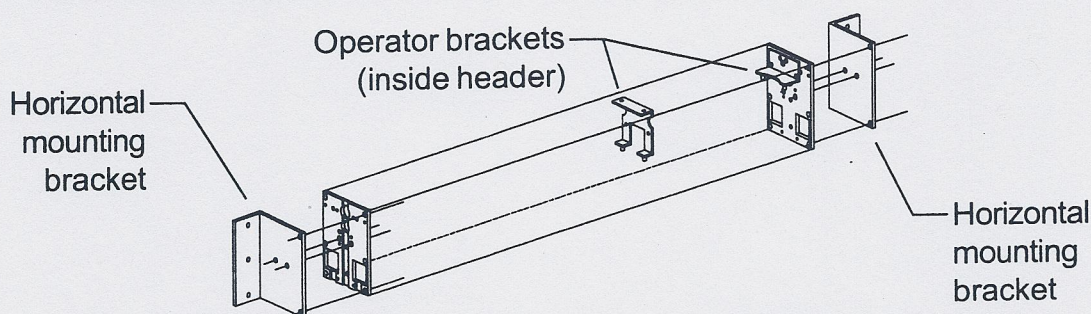

Figure 3-2
- 3.3. Install horizontal mounting brackets on the header per the instructions supplied with the brackets (Figure 3-2). Make sure the horizontal mounting brackets are oriented so the wire access holes in the header (see step 3.2) face up or face the door and, for single operator headers, the operator brackets inside the header are near the hinge side of the opening.